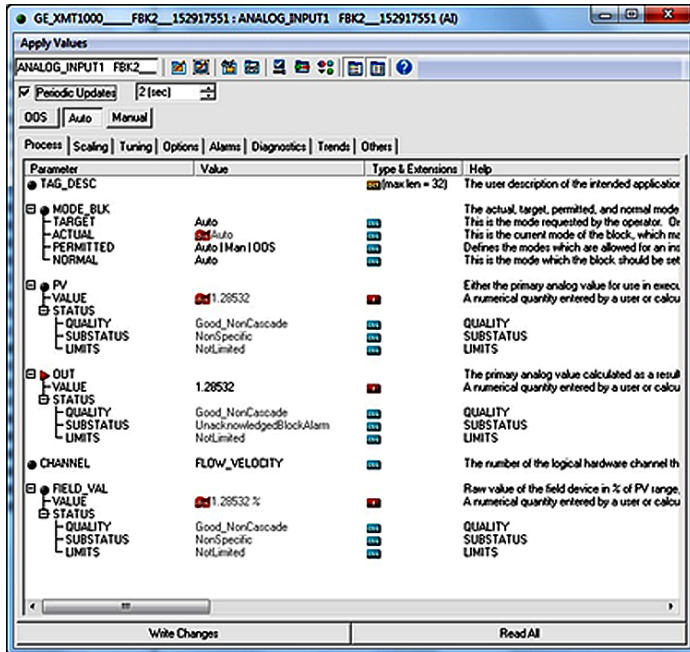

Figure 31: Analog input (AI) block
The analog input (AI) block (see *figure 31* below) is designed as a generalized signal conditioning function. The output from an AI block can be connected to the fieldbus. The AI block receives and processes data measured by the **transducer block** and provides additional functions such as scaling, filtering, alarm generation, and trending.